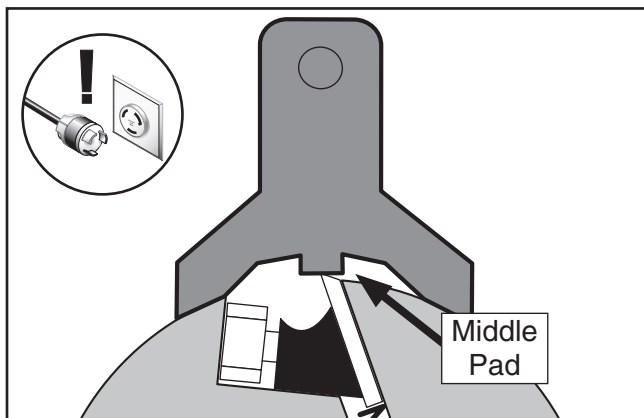

Figure 58. Typical gauge positioned over cutterhead knife.
4. Place the knife setting gauge on the cutterhead, directly over a knife, as shown in **Figure 58**.
3. Using a straightedge on the outfeed table, check the height of each knife at the positions shown in **Figure 58**.